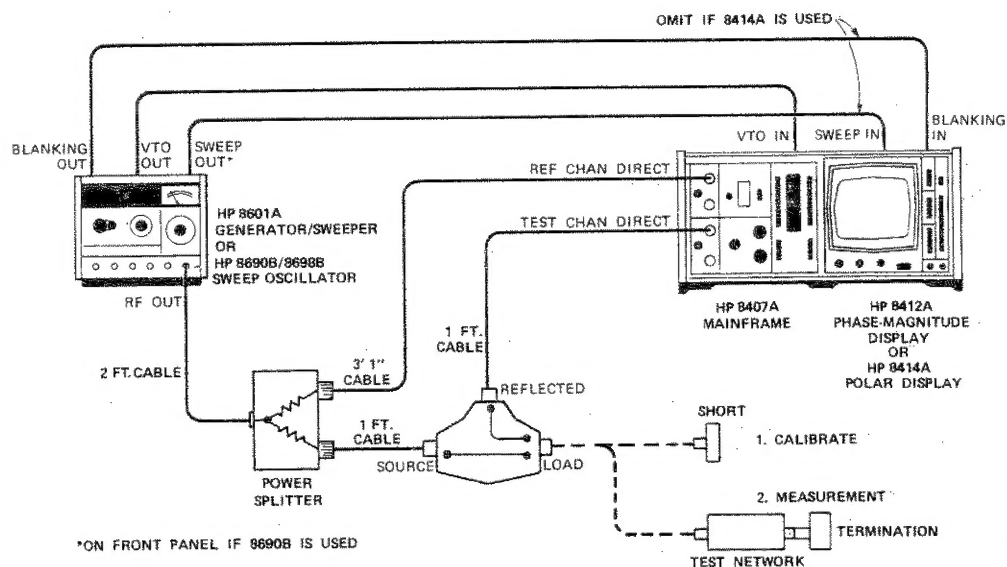

Figure 5. Basic Setup for Reflection Measurements
a. The HP 11652A is used as shown in Figure 5 when measuring complex impedance, reflection coefficient or return loss (VSWR).
1. Setup the equipment as shown in Figure 5.
Be sure the HP 8721A Directional Bridge is being used as a reverse coupler, not as a forward coupler during a reflection measurement (see Figure 5). This ensures that only the reflected signal will enter the test channel ($E_{REFLECTED}$).